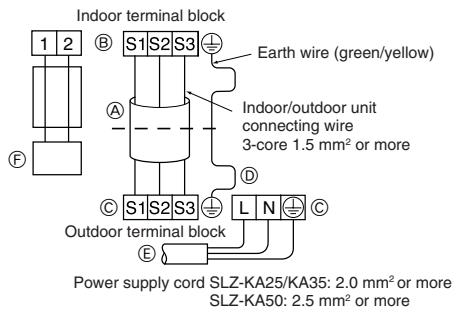

Fig. 7-4
• Perform wiring as shown in the diagram to the lower left. (Procure the cable locally) (Fig. 7-4)